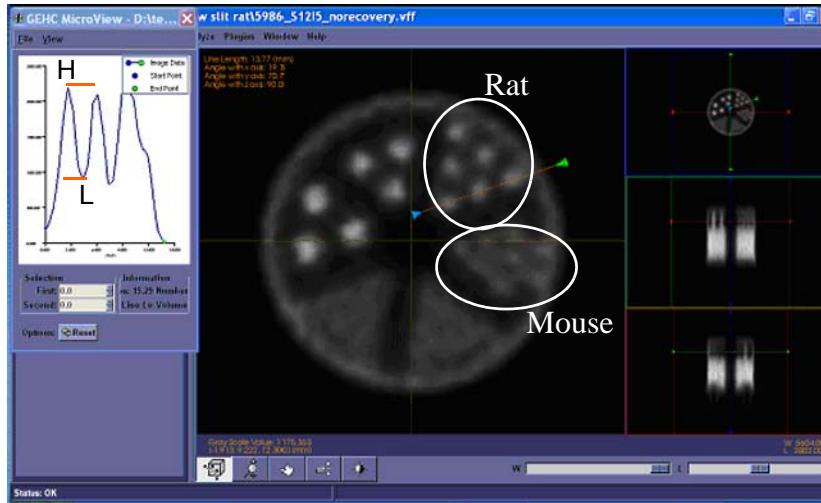

Figure 7-59
- 4.) The purpose is to determine whether the hot rods (6 x 1.7 mm group for rat and 8 x 1.35 mm for mouse shown in Figure 7-59) can be differentiated from each other. Quantitatively, MicroView is used for analysis by drawing a line across the centers of the rods, then plotting a profile. To plot a profile:
c. Hit P on the keyboard to obtain the plot shown in Figure 7-59. Place the cursor on the curve and read the peak and valley values from the Information block.
Note: Use the appropriate areas of the resolution phantom depending on whether a rat or mouse collimator is used, as shown in Figure 7-59.